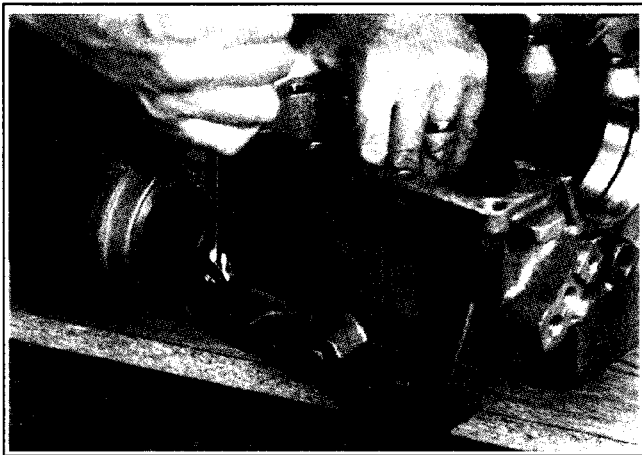

Figure 11-9. Installing Pipe Plug.
3. Apply pipe sealant with Teflon™ to the threads and install the oil pressure relief valve pipe plug. Torque the plug to **11.3 N·m (100 in. lbs.)**. See Figure 11-9.